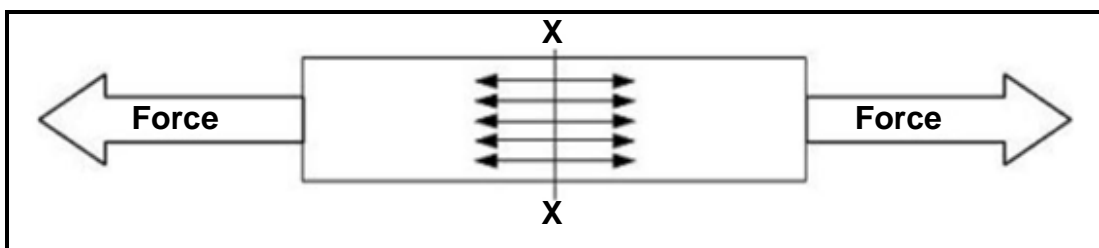

FIGURE 4.7
4.7 Describe the type of stress caused in the material as shown in FIGURE 4.7 below.